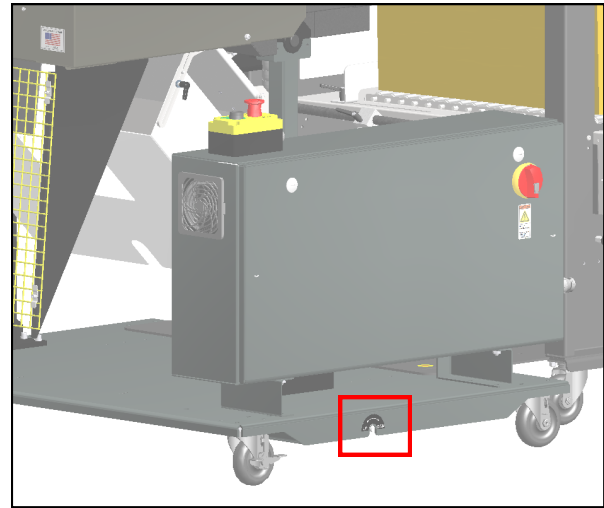

Figure 4-3B. Height Adjustment Shaft.
2. Rotate the Adjustment Shaft on the side of the Base Frame using a standard 5/16" Socket Wrench until desired height is achieved. Figure 4-3B.